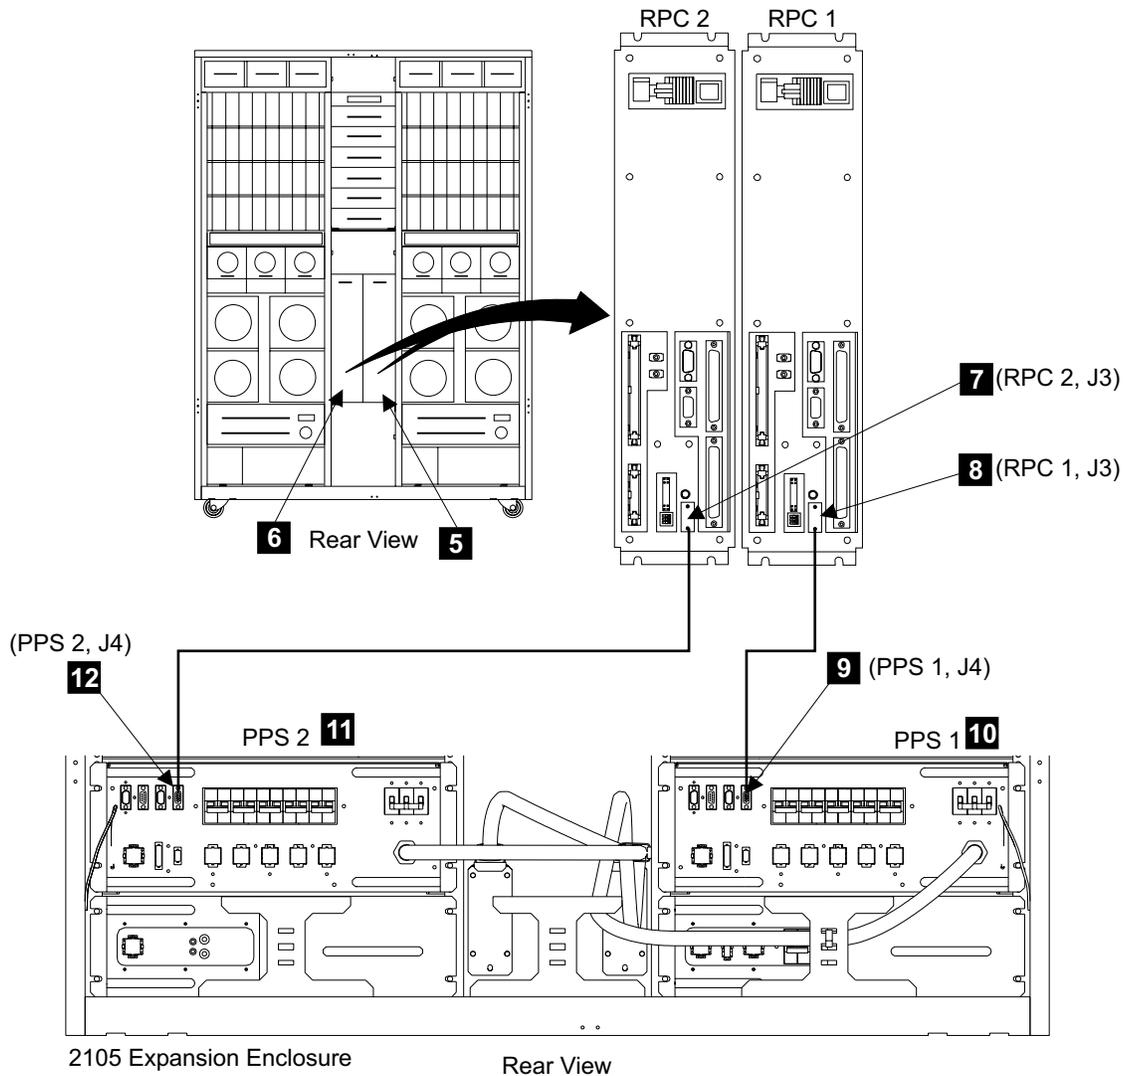

Figure 287. Primary Power Interconnect Cable Installation (S008655q)
5. Connect the two primary power supply to RPC control cables between the 2105 Expansion Enclosure primary power supplies 1 **10** and 2 **11** and the 2105 Model E20 rack power control cards 1 **5** and 2 **6**. See Figure 287 on page 292.